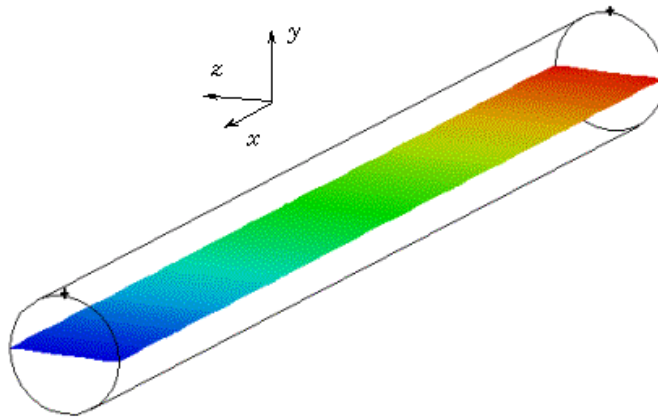
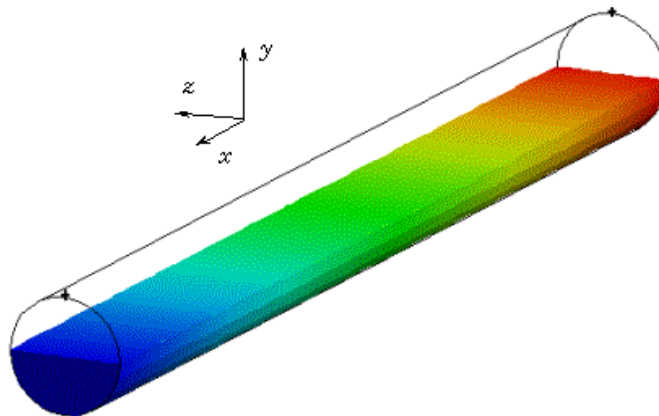

Figure 9.8.6: Smooth Contour Plot, Halfspace (0)
Figure 9.8.7: Smooth Contour Plot, Halfspace (-) and (0)
Figure 9.8.6 shows **Smooth** graded spectral band contours of pressure on a plane along the length of the pipe. Select **Smooth** and specify the **Halfspace** (-) and/or (+) options on the **Create Plane Object** panel. **FlowLab** displays the smoothly graded color spectrum in the region(s) below and/or above the cutting plane.
Figure 9.8.7 shows a plane object with contour specifications identical to those shown in Figure 9.8.6, but with **Halfspace** (-) and (0) options specified on the **Create Plane Object** panel.
If you specify a Cloud contour, only for the cutting plane, by selecting the **Halfspace (0)** option on the **Create Plane Object** panel, the plane-object display is identical to that for a **Smooth** contour applied to the cutting plane (see Figure 9.8.6).